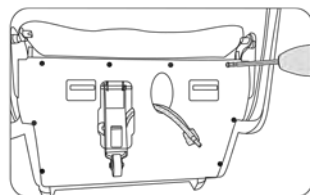

Figure 10
- Pull the calf rest air pipe and power cord through the hole of the front dam-board, then tighten the screws of the dam-board. (Figure 10)